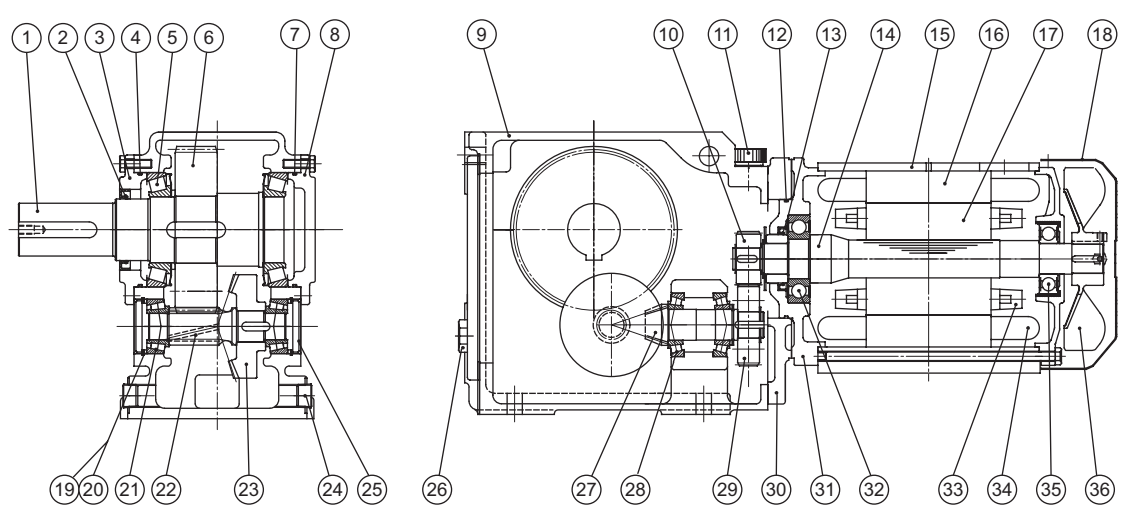

Fig. 24 Foot Mount Type Gearmotor (Example: KHHM-72R-K1)
Tables 15-18 show the types of bearings for each frame size. Numbers in the table (e.g. ⑤) shows the part no. in the construction drawings (Figs. 24~28).
Tables 19 ~ 23 show the types of oil seal for each frame size. Numbers in the table (e.g. ②) shows the part no. in the construction drawings (Figs. 24~28).